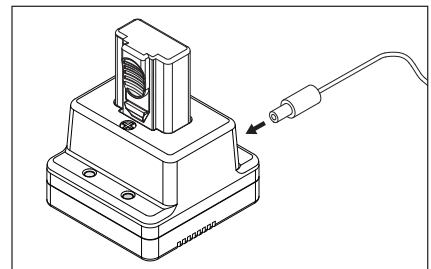

Figure 2
3. Insert the power cord of the adaptor into the charger base (see Figure 2).